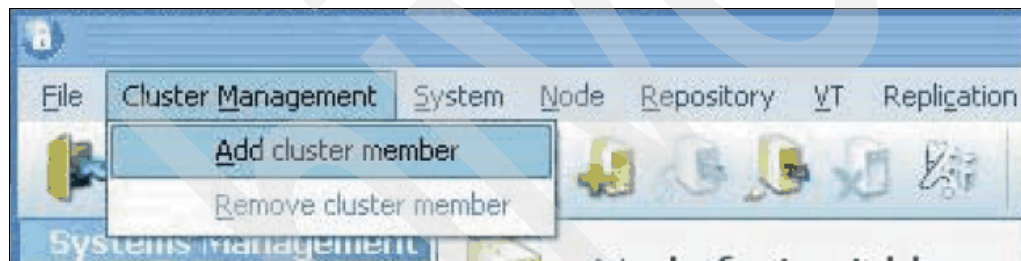

Figure 6-38 PT Manager_add cluster
4. On the ProtecTIER Manager toolbar, click **Cluster Management**, then select **Add cluster member**. See Figure 6-38.